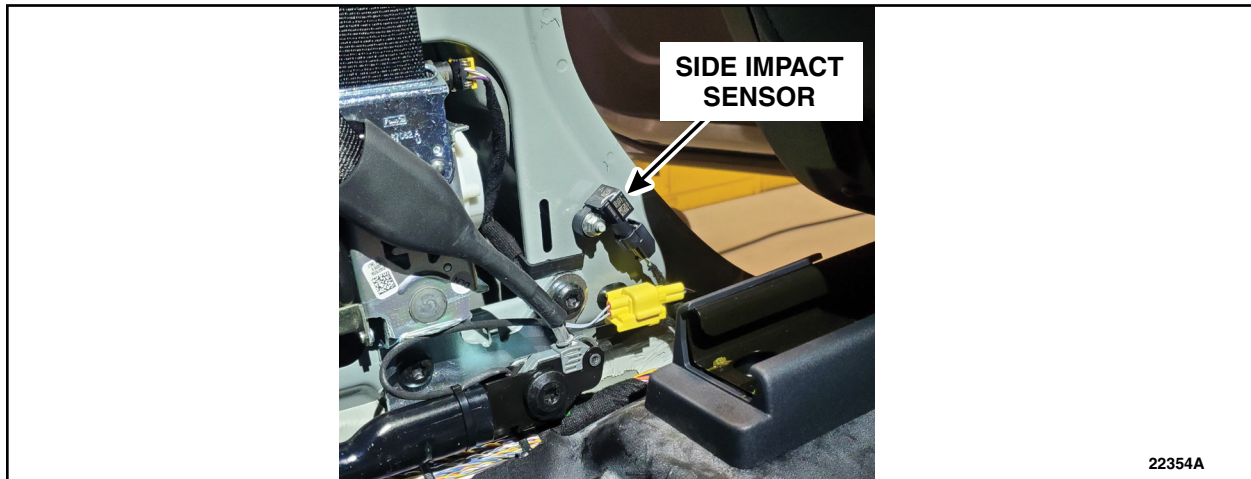

FIGURE 1
2. On both sides, locate and capture a clear photo of the side impact sensor. See Figure 1.